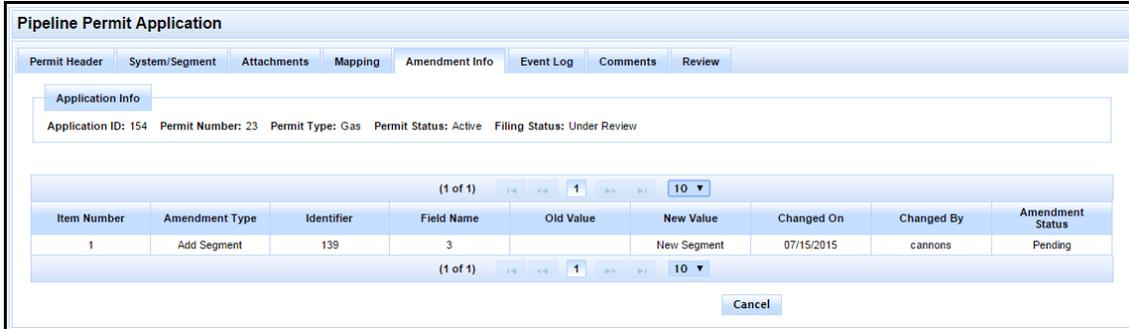

Figure 75: Permitting Reviewer Amendment Info Tab
- Review the information on the Attachments tab. When you are finished, click the Amendments tab. An example Amendments tab is shown in Figure 75.